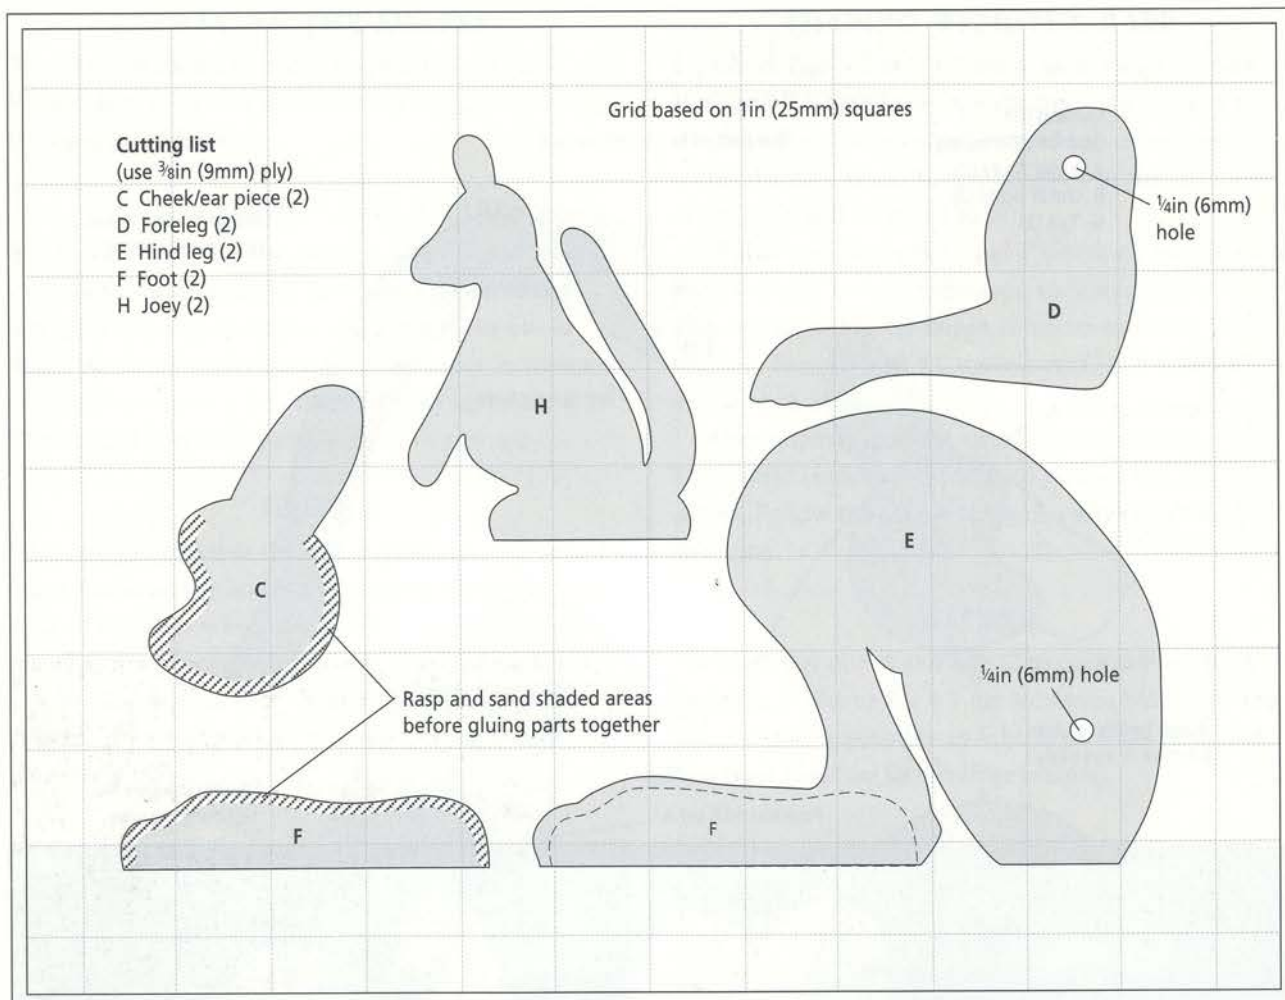

Fig 4.3 Cutting list for the remaining parts.
Glue and pin one F to each of the two E parts. Figs 4.3 and 4.8 show where F is to be glued onto part E. Set aside the body assembly and the two hind leg assemblies until the glue has dried.
Refer to Fig 4.3 to find the locations of the drill holes in the forelegs (D) and the hind legs (E). Mark the locations of the holes on the parts with a pencil. Fit your drill with a $\frac{1}{4}$ in (6mm) drill bit and drill the holes.